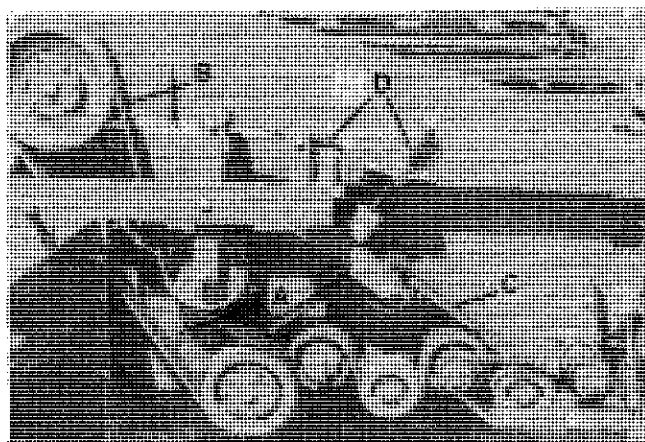

FIGURE 23 - BED CHAIN & GRAB ROLL DRIVE
The bed chain drive, #60H roller chain (see figure 23), is protected with a friction clutch (A). The clutch is set by tightening all of the bolts snug and loosening each bolt two revolutions. Readjust as necessary by turning each bolt in 1/4 turn increments until bed chain will carry the load.
The primary grab roll belt drive (B) and final grab roll belt drive (C) (see figure 23) are tensioned by spring loaded idlers. These should be tightened so springs (D) are compressed to 5-1/4" for primary and 4-1/2" for final drive. These must be further tensioned if any belt slippage occurs.